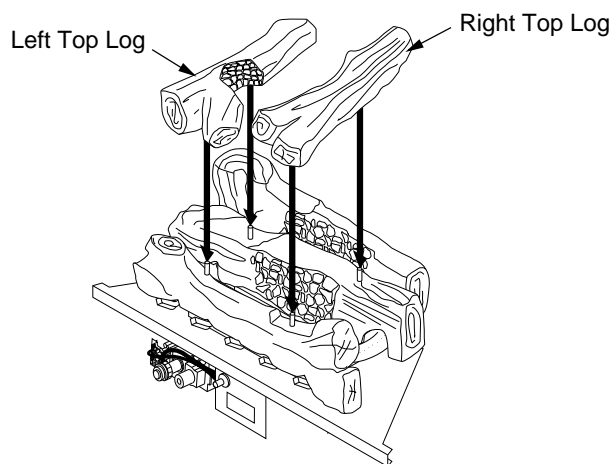

Figure 30 - Installing Logs 4 and 5
4. Place left top log on left pins on logs 2 and 3, resting it on log 1 (see Figure 30).
5. Place right top log on right pins on logs 2 and 3 (see Figure 30).